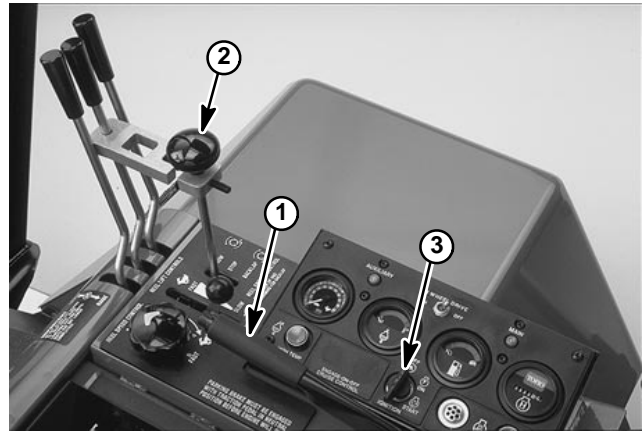

Figure 4
2. Sit on the seat and engage parking brake (Fig. 4). Turn key and try to start engine with Mow–Backlap lever (Fig. 4) in both the MOW and BACKLAP positions. If engine cranks, there is a malfunction that must be repaired immediately. If engine does not crank, the cutter drive switch is operating properly.
3. Sit on the seat and disengage the parking brake (Fig. 4). Turn key and try to start engine with Mow–Backlap lever (Fig. 4) in the STOP position. If engine cranks, there is a malfunction that must be repaired immediately. If engine does not crank, brake switch is operating properly.
4. Engage parking brake (Fig. 4), start engine and lower cutting units. Move Mow–Backlap lever (Fig. 4) to MOW. Raise off the seat; engine should stop within a few seconds, which indicates the interlock system is operating. Also raise off the seat with lever in the BACKLAP position. Engine should stop, indicating interlock system is operating. If engine does not stop, there is a malfunction that must be repaired immediately.